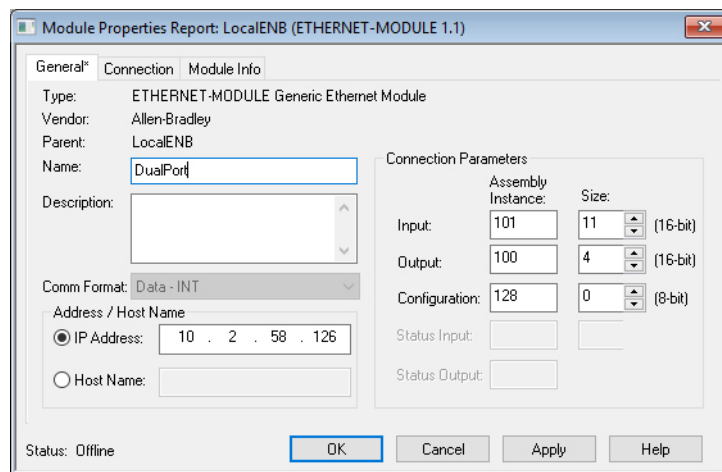

Figure 3-1. Dual Port – Generic EtherNet/IP Module Setup
- If explicit messages are used and the PLC supports class 3 connections (with appropriate interface), insert the data shown in Figure 3-1.